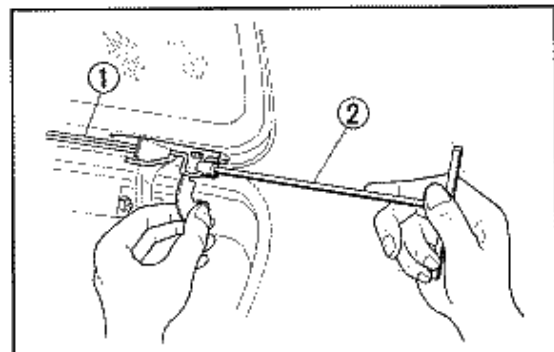

Fig. 18-2 ① Torsion Bar ② Torsion Bar Remover
1. Remove the torsion bars from the tail gate hinges with the torsion bar remover (Special tool) as shown in Fig. 18-2.